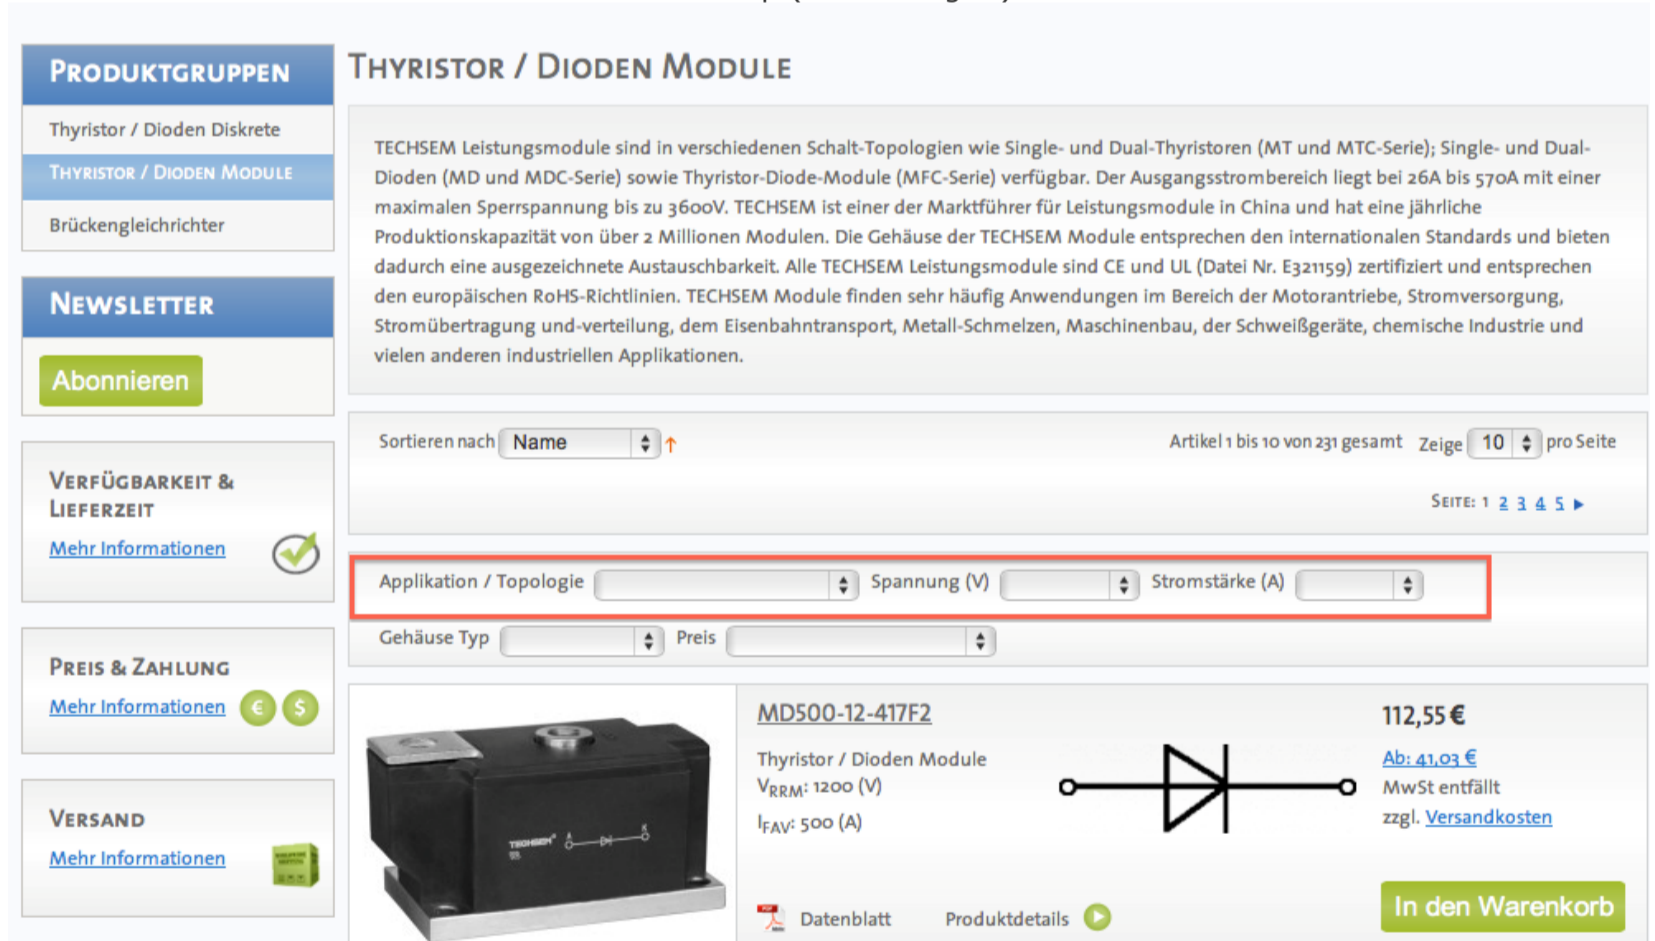

Fig. 2 : The filtering function in the webshop
3. After the current and the voltage have been set, you can find the suitable modules through the filtering in the web shop (refer to Fig. 2).